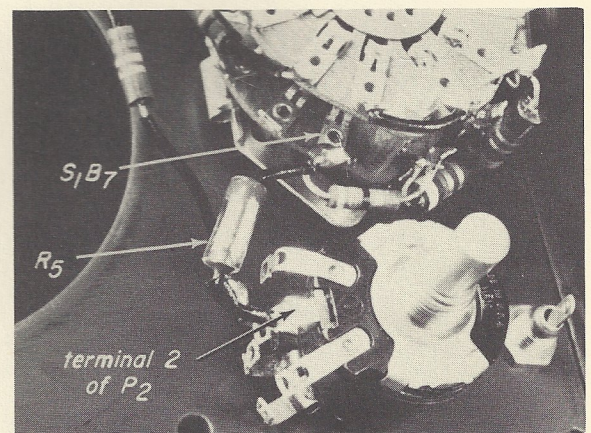

Fig. 5-8
Step 3. Connect one end of this resistor to terminal 2 of potentiometer P_2 , as shown in Fig. 5-8.